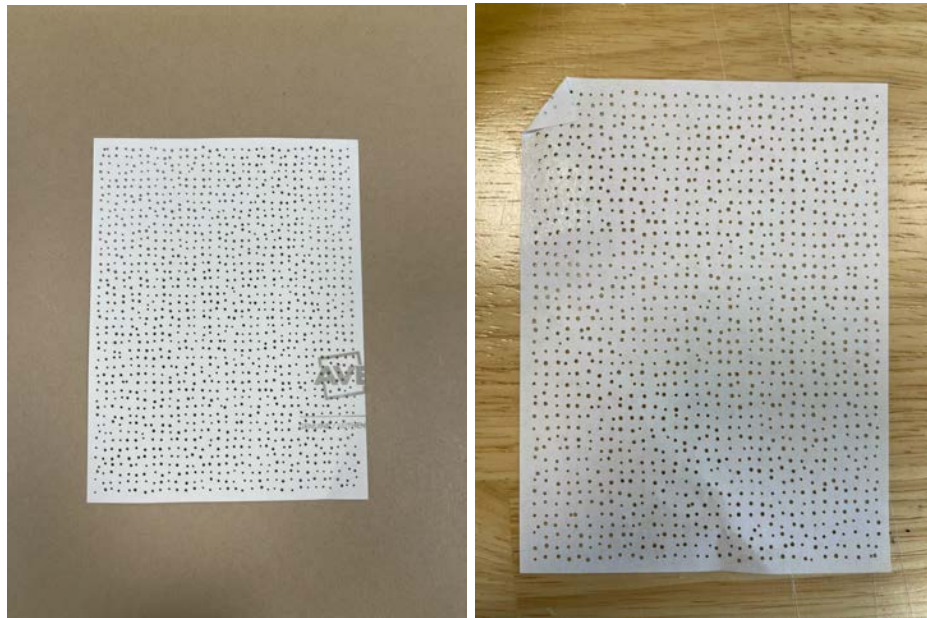

Figure 12: Dog eared stencil after backing is peeled off
9. Remove paper backing of the adhesive stencil and “dog ear” one corner towards the backing to make a tab for easier removal (Fig 12).